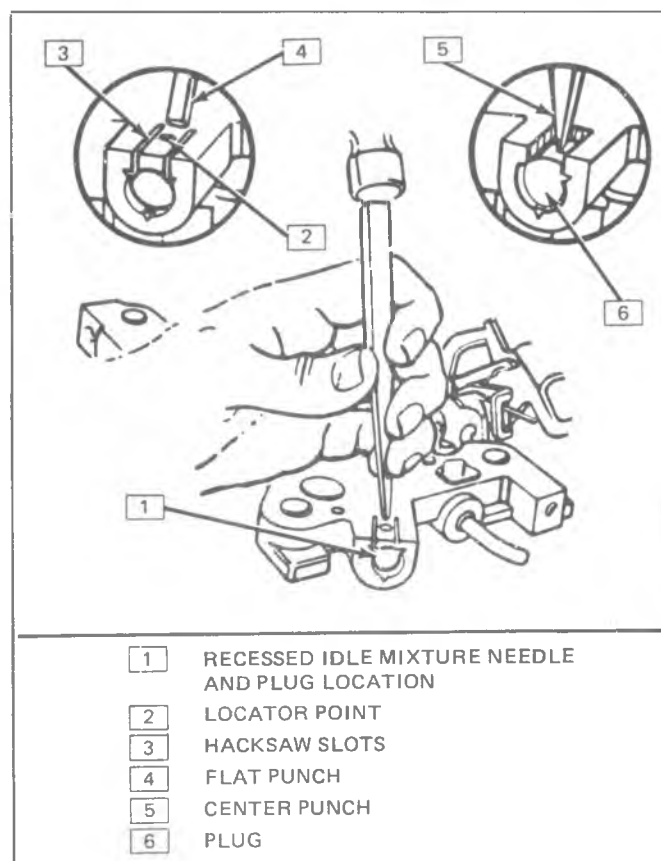

Figure 108 Removing Plug
- b. Make two parallel cuts in the throttle body, one on each side of the locator point, with a hacksaw. Cuts should reach down to the steel plug, but should not extend more than 1/8" (3.2mm) beyond the locator point. Distance between saw cuts depends on size of the punch to be used. (Figure 108)
- c. Place a flat punch at a point near the ends of the saw marks in the throttle body. Hold the punch at a 45° angle, and drive it into the throttle body until the casting breaks away, exposing the steel plug. (Figure 108)